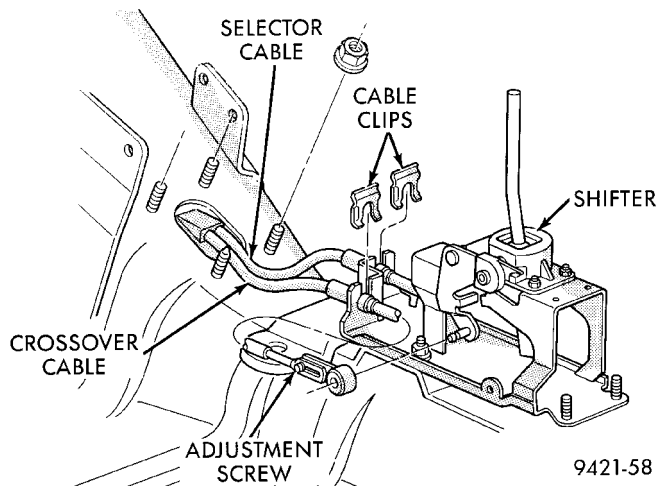

Fig. 15 Crossover Cable Adjustment Screw
- (1) Remove shift console from vehicle.
- (2) Loosen adjusting screw on crossover cable at shifter (Fig. 15).